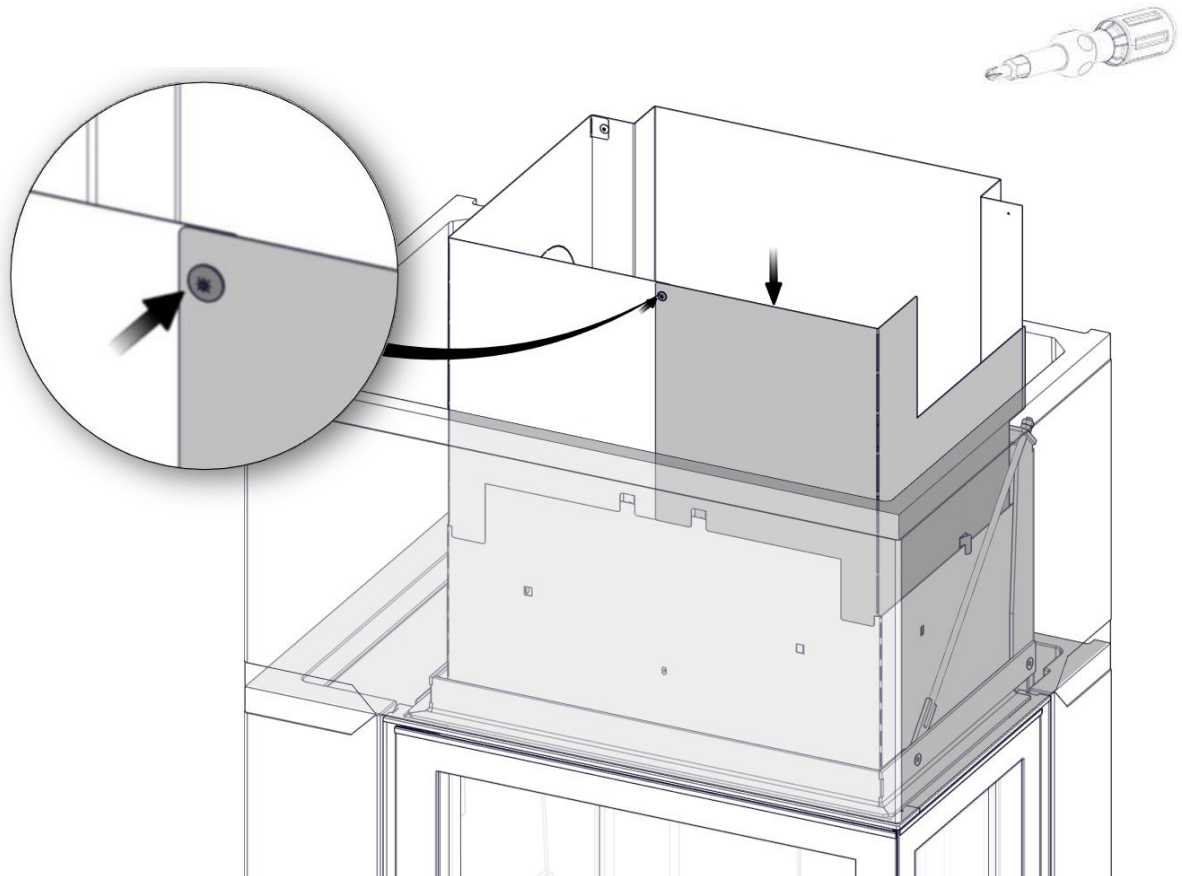

FIG 17 Davos A High\_N-29A
FIG 17 a Davos A High\_N-29A
**FIG 17 b** Davos A High\_N-29A
**FIG 17 c** Davos A High\_N-29A
FIG 17 d Davos A High\_N-29A